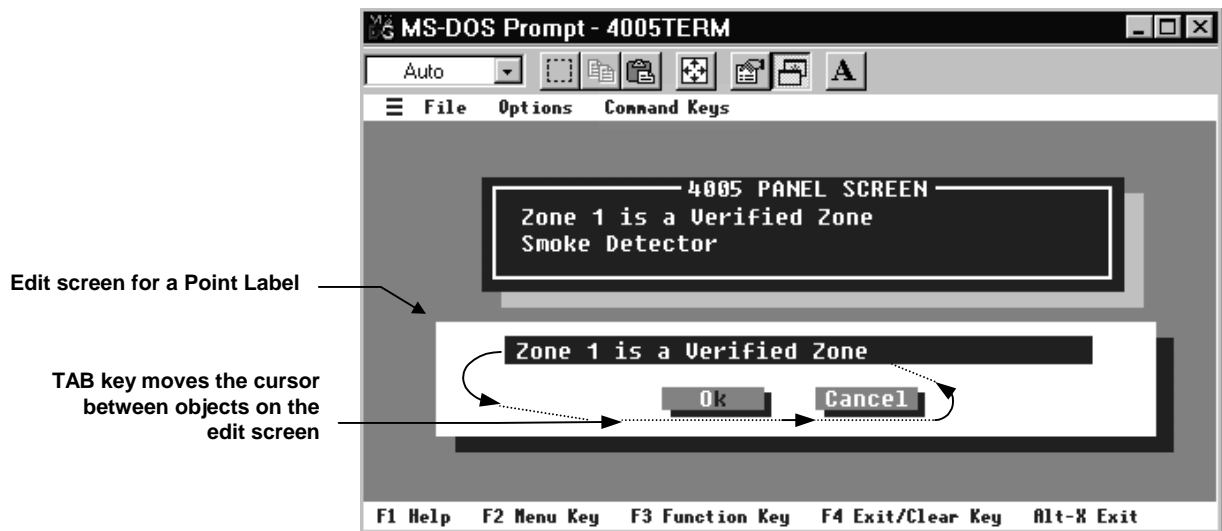

Figure 10. Edit Point Label Screen.
Figure 10 appears with an edit screen. Press the tab key until the blinking cursor appears in the label and then type in your label. You can use the back space to delete the existing label. Pick a label that best suits the location or function of the point. The available characters are as follows :
2. Use the up and down arrow keys to scroll through the selections on the 4005 Panel Screen until [**Data Transfer**] is displayed (see Figure 10) and then press <Enter>.